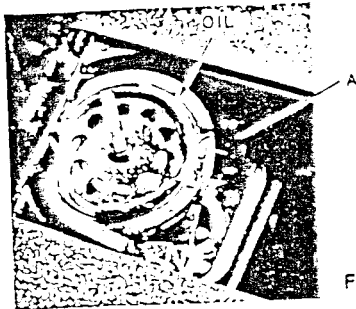
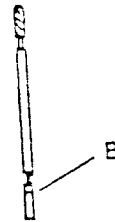

Fig. 6
Fig. 6-1
2. To fill the oil for reservoir of hook saddle from the hole after taken out the oil gauge (Fig. 6 A) and pour the oil until the oil level reached to the upper reference line of the oil gauge (Fig. 6-1 B).